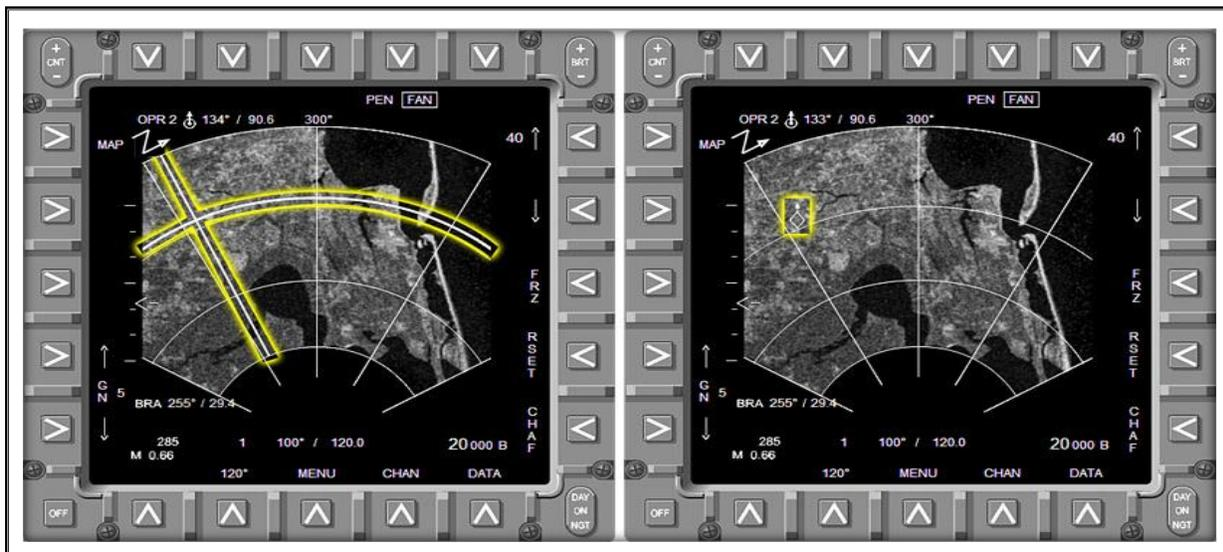

Figure 3-8 Designating Cursor/VMTS Stabilized Cue
- b. Acquisition Cursor is now replaced with the Designating Cursor (Figure 3-8) and may be slewed as needed to refine the position over the desired target
- a. When RHC trigger or TDC is released, Designating Cursor is replaced with Stabilized Cue (Figure 3-8)